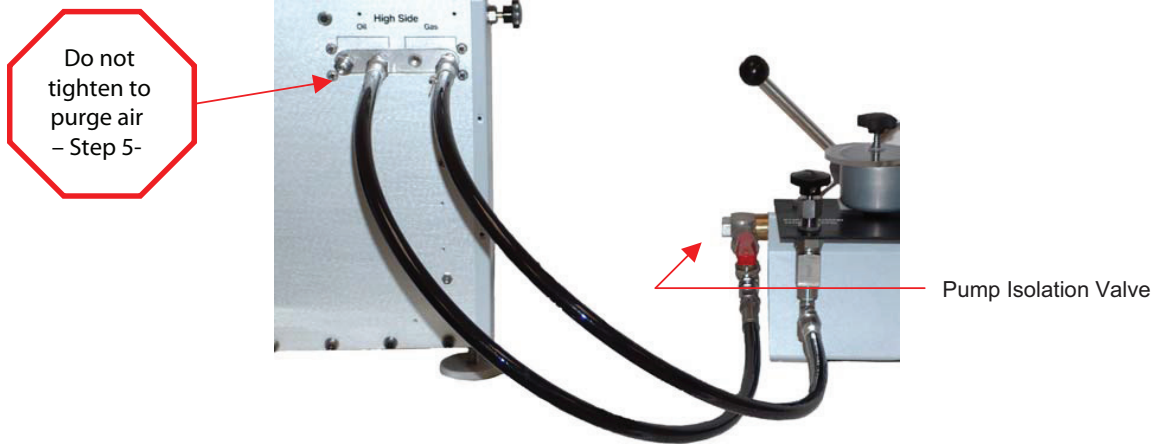

Figure 5. Plumbing Connections
4. Position the hydraulic pump unit on the workbench approximately 25 cm (10 in) to the left of the main instrument (see Figure 5).
Figure 5 shows the gas supply connection. This connection is used in gas mode operations and does not need to be installed for initial setup and demonstration of oil mode operations. Refer to the Gas Mode Setup section.
5. Connect a flexible hose between the Pump Isolation Valve and the High Side Oil Port on the RUSKA 2482 rear panel. Do NOT tighten the rear panel fitting until air has been purged from the line (see Figure 5).
6. Connect a flexible hose between the High Side Gas Port on the RUSKA 2482 rear panel and the tee fitting located on the rear of the hydraulic pump assembly (see Figure 5).
1. Insert the power adapter plug into the power receptacle on the rear panel of the instrument (see Figure 5).